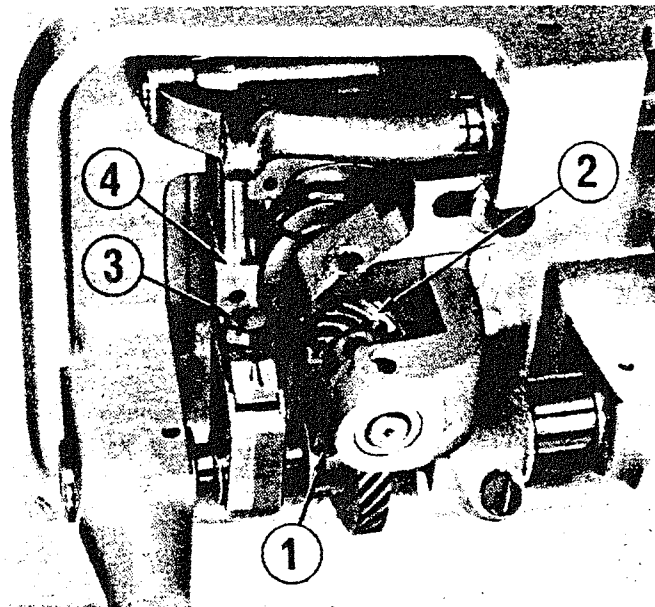
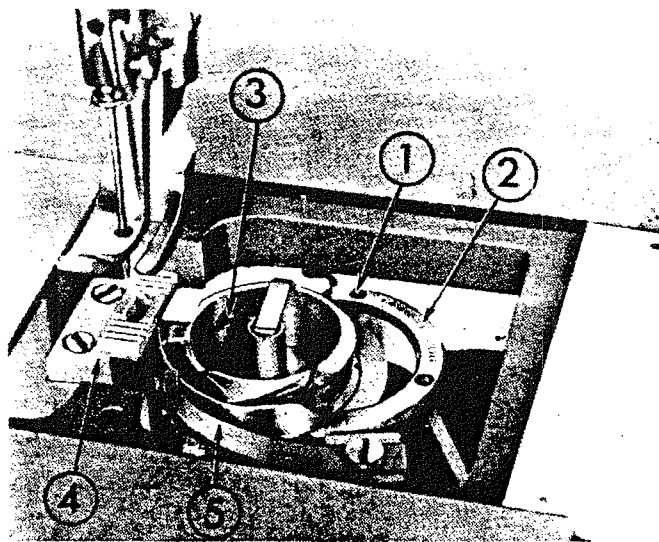

Fig. 22
Fig. 23
When the timing of the needle bar and the blade point is matched wrong, rotate the hand wheel towards the operator and set the height of the needle bar applying the above-mentioned method. Then, loosen the 2 screws of the large mitre gear (Fig. 23 ①), move the mitre gear to right or left, rotate the sewing hook and match it with the axis of the needle and re-tighten the 2 screws. At this point, the sewing hook is firmly set to the small mitre gear (Fig. 32 ②).
6. Removing the bobbin case from the sewing hook (Fig. 23)
Remove the 2 small screws (Fig. 23 ①) from the sewing hook, open the hook gib (Fig. 23 ②) as shown in Fig. 22 and take out the bobbin case (Fig. 23 ③).
Slide open the bed slide, remove the throat plate, feed dog (Fig. 23 ④) and the sewing hook guide latch (Fig. 23 ⑤).
Then, tilt the machine head backwards, loosen 2 set screws of the hook driving pinion (Fig. 22 ②) and remove the sewing hook by knocking the bottom of the spindle of the hook lightly by a screw driver.
(Fig. 22 3 ), slide the feed bar (Fig. 22 4 ) up and down and after adjusting, firmly tighten the screw.